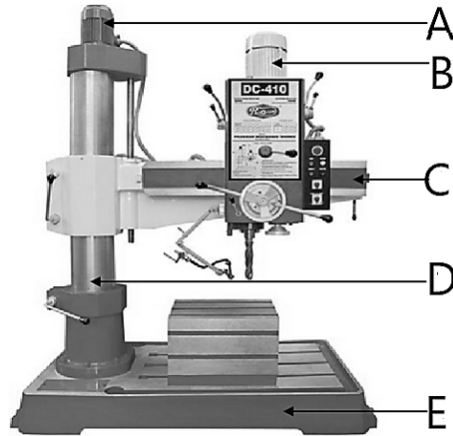

FIGURE 1
- 1.3 FIGURE 1 shows a radial drilling machine.